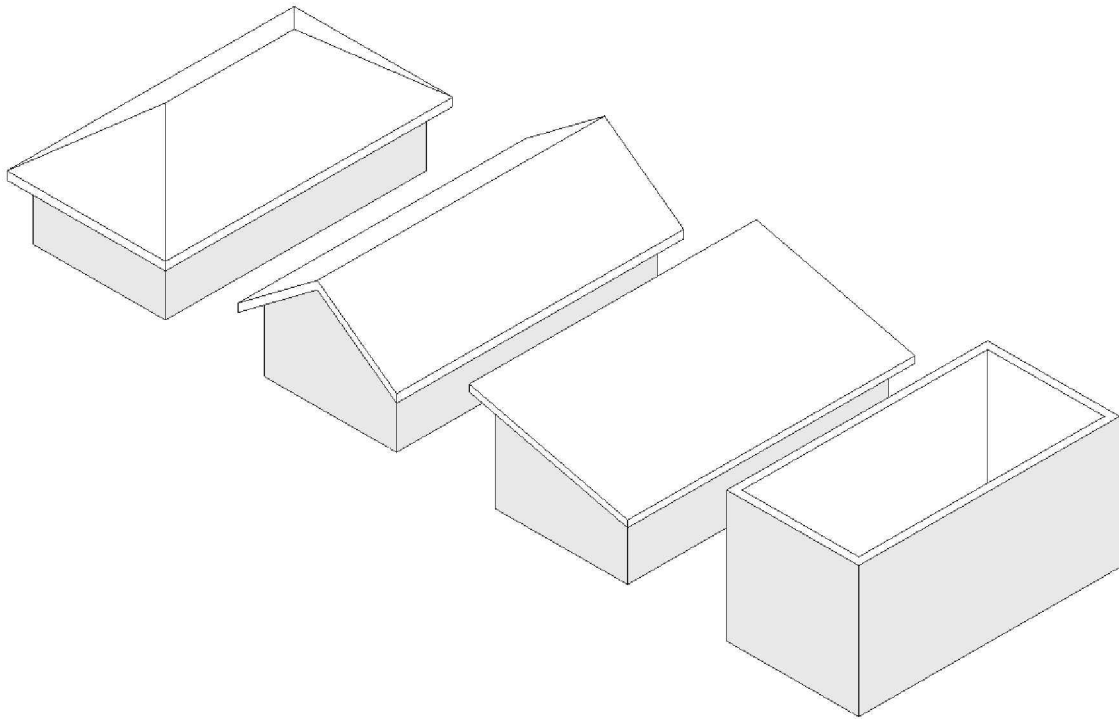

FIGURE 6-1.11 Default 3D view – shed roof
38. Switch to the **Default 3D** view (Figure 6-1.11).